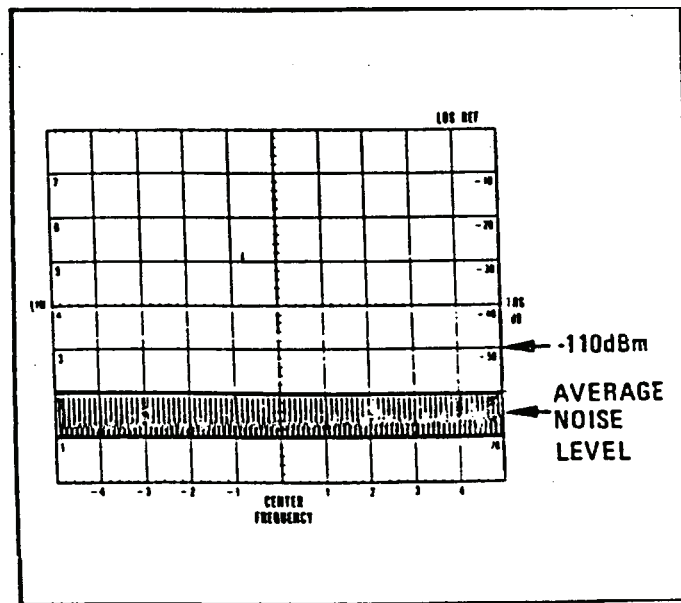

Figure 8. Noise level limit indication.
- (2) Position IF plug-in controls as listed in (a) through (h) below:
- (3) Slowly adjust **FREQUENCY** control from 110 to 1 MHz while observing display. Average noise power level will be lower than -110 dBm (as shown in figure 8).